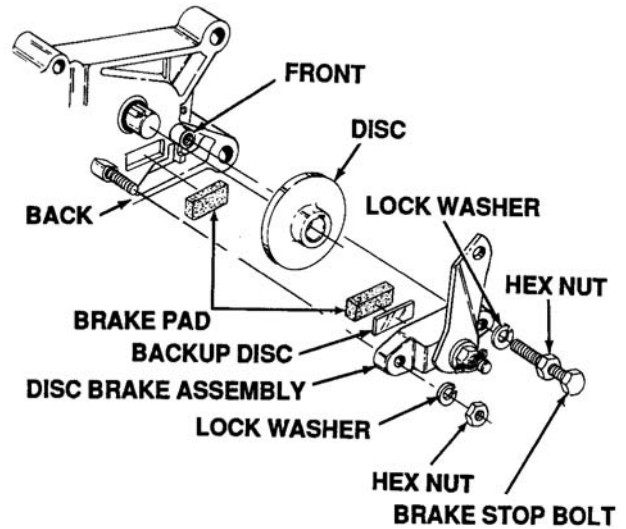

Figure 5-102. Disc Brake and Disc
- Remove disc brake and disc by removing a hex nut and lock washer on the rear of brake. Loosen hex nut on brake stop bolt. Remove the brake stop bolt, nut and lock washer. See Figure 5-102.